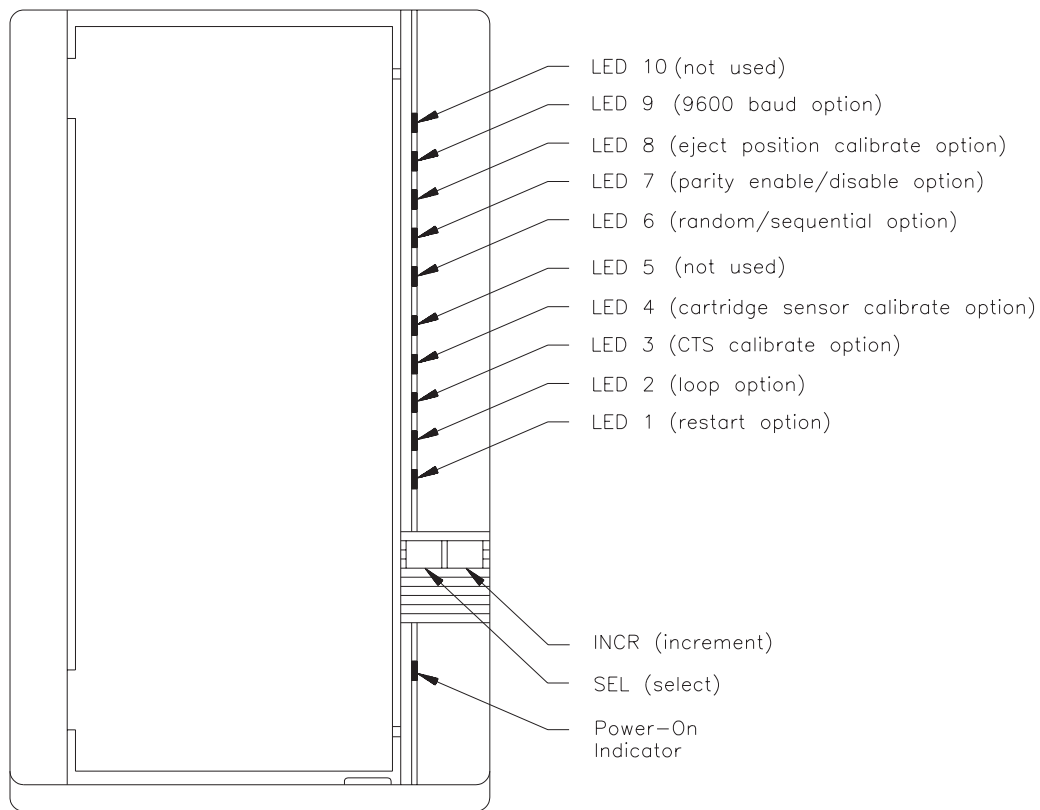

Figure A-1 LEDs on the front of the CHS (EXB-10i shown)
1. Turn off the CHS. Then press both the INCR and SEL buttons simultaneously while moving the power switch to the “on” position. (Figure A-1 shows the location of the INCR and SEL buttons.) After all LEDs turn on and then turn off (in approximately two seconds), wait another second and release the buttons.
1. After following the steps above, press both the INCR and SEL buttons simultaneously while moving the power switch to the "on" position. (Figure A-1 in Appendix A shows the location of the INCR and SEL buttons.) After all LEDs turn on and then turn off (in approximately two seconds), wait another second and release the buttons.